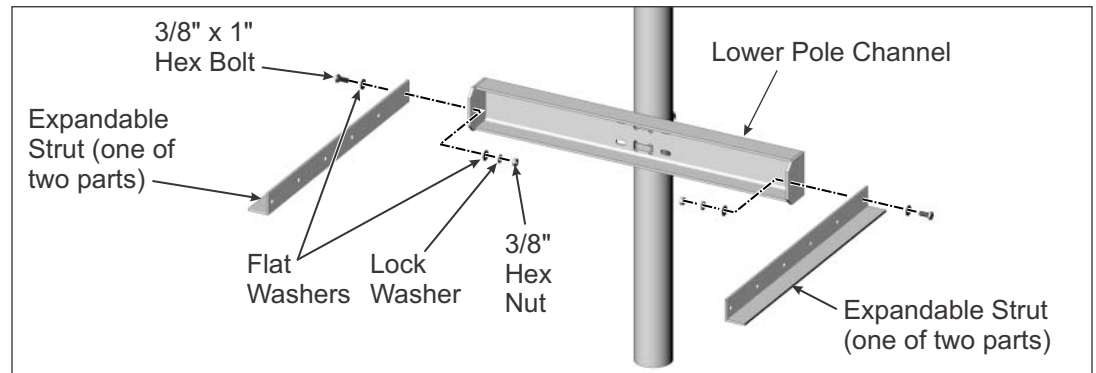

*Figure 1-6: Installing Upper Pole Channel*
- F. Rotate the Pole Channel so it is facing south. (See Figure 1-6)